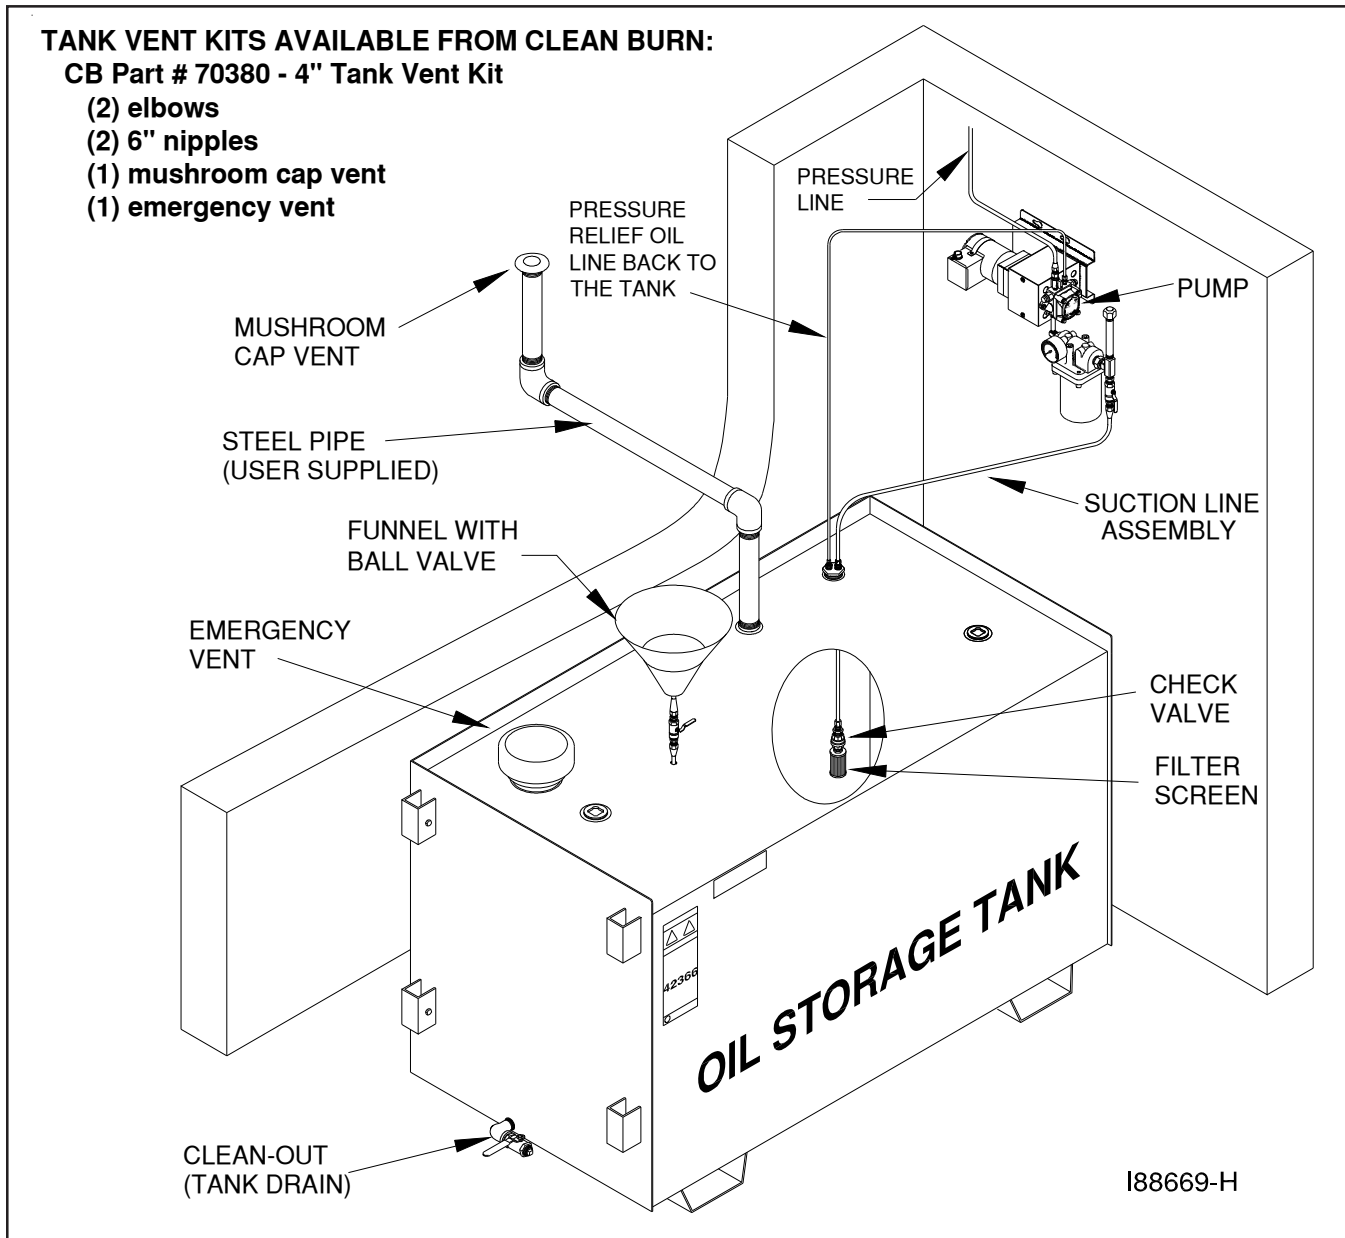

Figure 4D - Typical Metering Pump Installation with Inside Tank
Some codes require that you install a tank vent (to the outside) and an emergency vent for your tank as shown in Figure 4D. **Tank Vent Kits** are available from Clean Burn; contact your local Clean Burn dealer to order. Be sure to check your local codes for any additional tank installation requirements, and adhere to the following installation guidelines:
- Install a length of minimum 50 mm (2") steel pipe (user-supplied) terminating outside with a proper vent cap as shown in Figure 4D. Consult local codes for information and requirements concerning the proper venting of oil storage tanks.
- Install an emergency vent as shown in Figure 4D. Contact your tank manufacturer for information concerning the proper emergency vent for your tank.